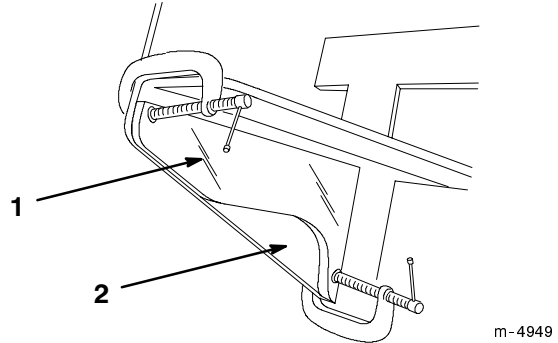

Figure 3
5. Clamp the template to the outside of one of the plates to be cut (Fig. 3)
6. Using an oxyacetylene torch, follow along the lower, curved edge of the template, cutting out the area indicated in Figure 3.